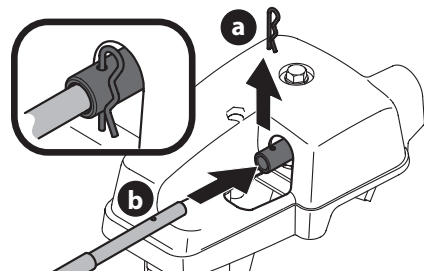

Figure 29
- Remove hairpin clip (a) from rear of chute control head (Figure 29).
- Insert flex shaft (b) into rear of chute control head and secure with hairpin clip (a) removed in Step 4 (Figure 29).